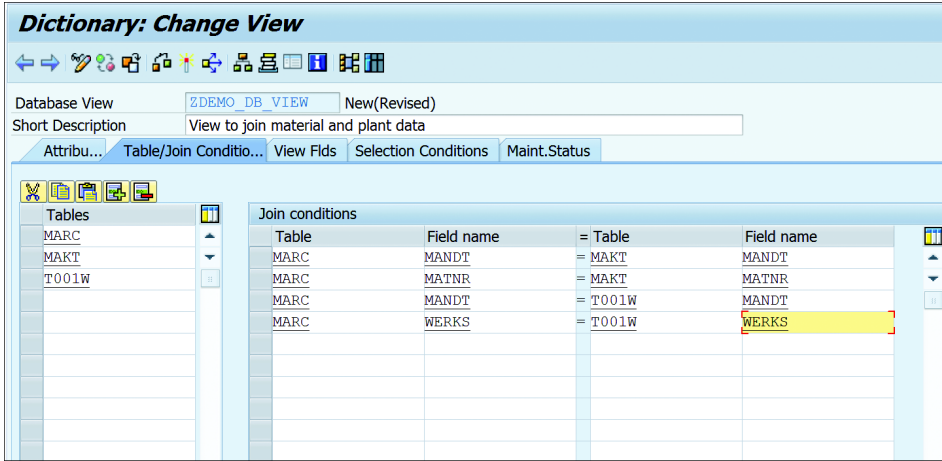

Figure 10.36 Join Conditions
3. Under the TABLE/JOIN CONDITIONS tab, enter the database table names under the table column that you wish to join. You only can use transparent tables as the base tables in a database view. Under JOIN CONDITIONS, write the condition to join the tables, as shown in Figure 10.36. Include the MANDT field in the join condition to restrict the data to the current client. Only inner joins are allowed.